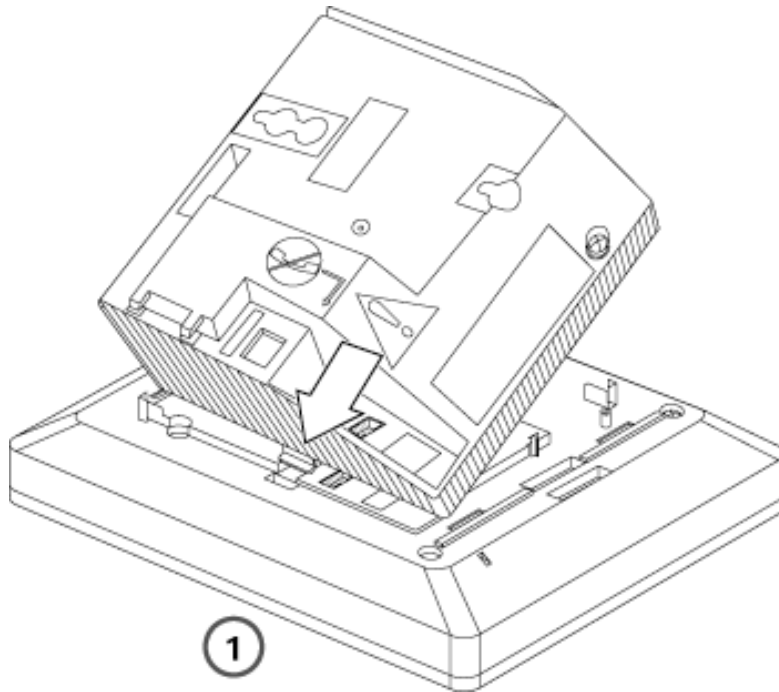

Figure 3-39. Placing the Module Cover into the Locating Slot
1. Place the locking tab on the module cover into the slot on the left side of the telephone as shown in item 1 in Figure 3-39.